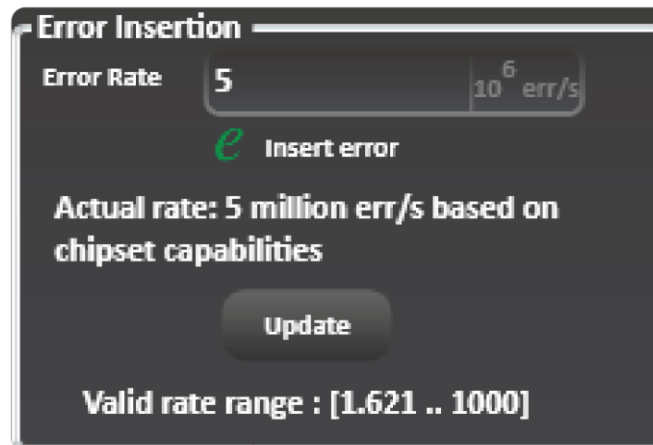

Figure 19: Error Insertion in Optimal Mode
- **Specify Error insertion rate.** The actual rate of errors per second depends on architecture capabilities (Figure 19).